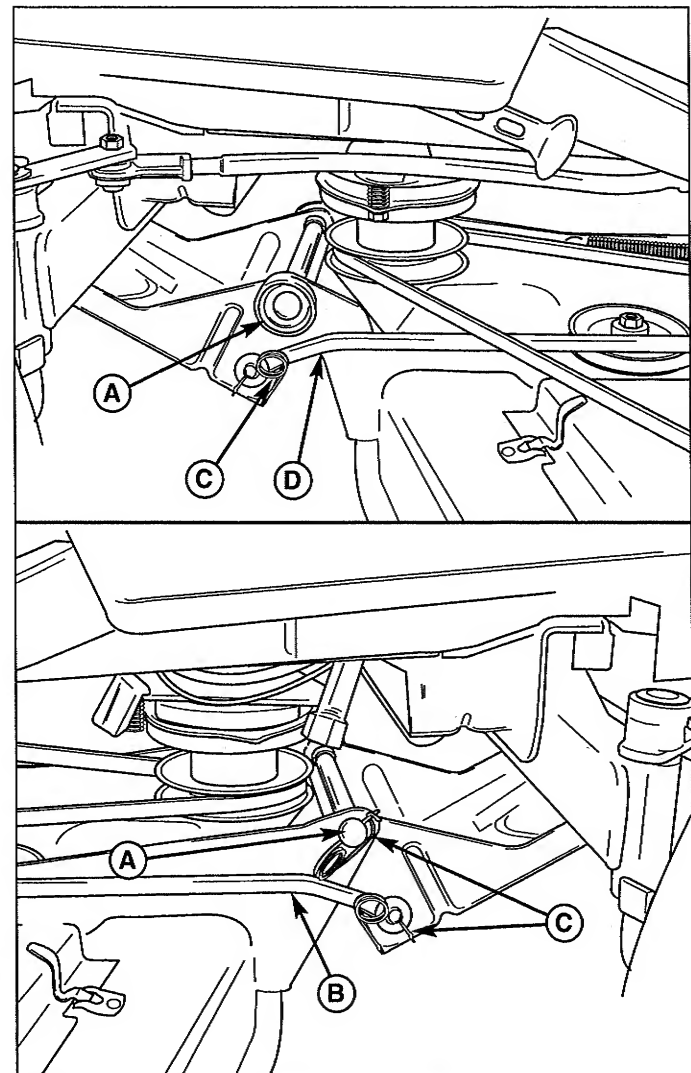

Figure 13. Hitch Hardware - 54" Models Only
7. Remove the clips (C, Figure 13) and washers securing the hitch rod (A) and leveling rods (B, D). Remove the hitch rod (A) and hitch bucket.